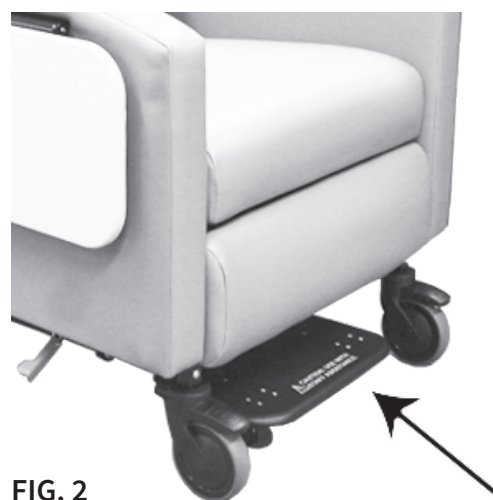

FIG. 2
2. **TO STORE:** Using your foot, **PUSH IN** on the foot plate until it is returned to the fully stored position. (FIG 2)